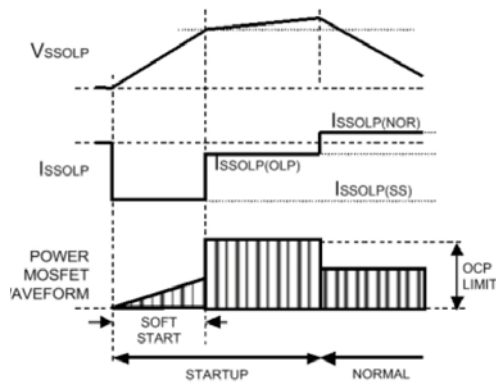

Figure 8. Soft-start operation
**Soft-start operation at start-up of power supply** At the power supply start-up, an external capacitor is charged up to the soft-start operation threshold voltage,  $V_{SSOLP(SS)}$ , by soft-start operation charging current,  $I_{SSOLP(SS)}$ , sourced from the SS/OLP pin. Soft-start is activated at power supply start-up by means of the SS/OLP pin voltage change from the initial 0 V level, up to 1.2 V. Timing is shown in figure 8 and the following table: